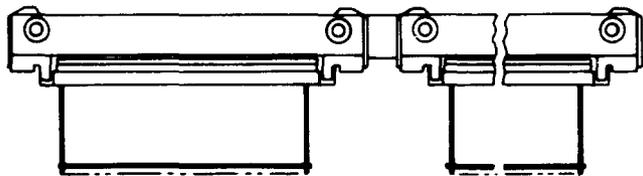

Fig. 13—971A Connector
2.06 971A: The 971A connector (Fig. 13) consists of two 947C connectors mounted to a common bracket. The connectors contain 164 terminals and are designed to mate with the 970A connector. The connector is used on the No. 4 ESS.